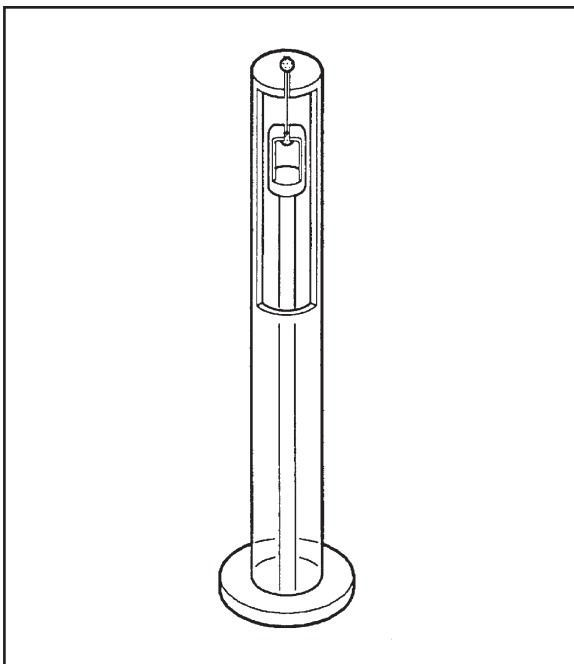

Figure 4.4
8. Move the furnace back into position and lower it. See Figures 4.4 and 4.7 for the correct probe setup with fiber and film samples.
7. Position the second ball below the slot in the film/fiber probe so that the fiber is suspended between the two balls as shown in Figure 4.4.